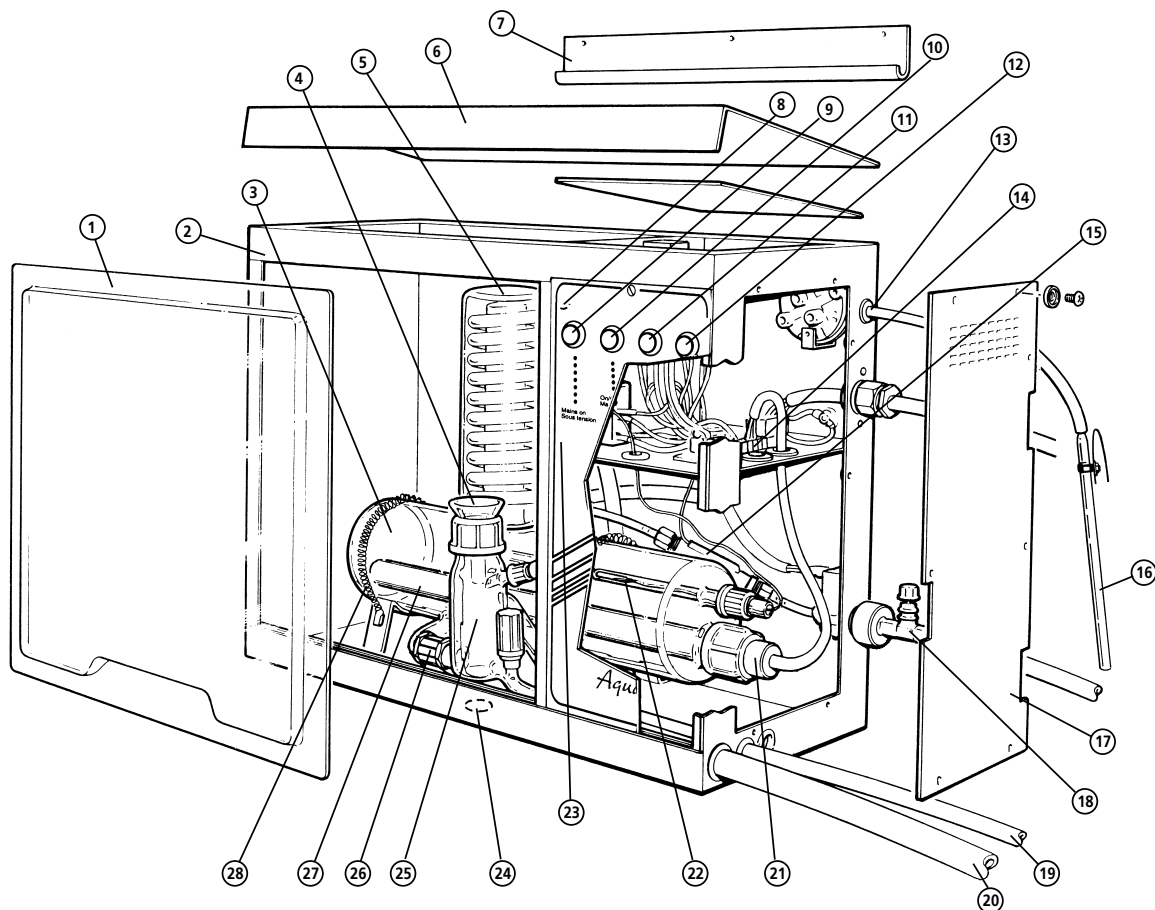

Fig 1: Major component parts A4000
Your Aquatron A4000 has been designed with ease of assembly specifically in mind, but before commencing assembly please study the illustration, fig. 1 on page 2 to familiarise yourself with the general lay-out. During assembly, follow the sequence of instructions and do not connect the mains electricity supply until directed.
- 3 Remove the perspex viewing screen, item 1 fig. 1 by using the finger recess to lift the screen out of the lower cabinet groove, then remove the internal packaging which has protected the glass boiler during transit. Also sever the temporary tie holding the two boiler retaining springs, item 28 in place.
- 4 Remove the cabinet end plate, item 17 by unscrewing the six retaining screws and 'shake proof washers'. Similarly, unscrew the six countersunk screws to remove the cabinet roof.
- 16 Connect the cold water supply to the mains water inlet, item 18, fig. 1. Note the tubing selected should have a safe working pressure of at least equal to the pressure of the water supply and should be adequately secured by hose clips.
- the dummy shorting plug is fitted to socket item 8, fig. 1.
- 6 Turn on the mains water supply and using the needle valve item 18 fig. 1 on the side of the cabinet, adjust the flow rate to approximately 1 litre/min.